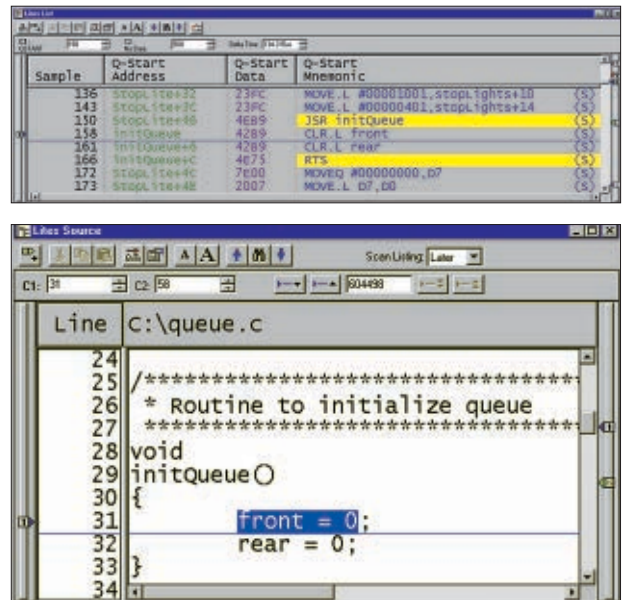

FIGURE 12. Source code display. Note that line 31 correlates to sample 158 in the instruction trace display in Figure 9.
Figure 11 is an example of a real-time instruction trace display. An additional display – the source code debug display – makes your debug work more efficient by correlating the source code to the instruction trace history. It provides instant visibility of what's actually going on when an instruction executes. Figure 12 is a source code display correlated to the Figure 11 real-time instruction trace.
- State machine system optimization: line 31 in Figure 12 is correlated with sample 158 in the instruction trace display of Figure 9.